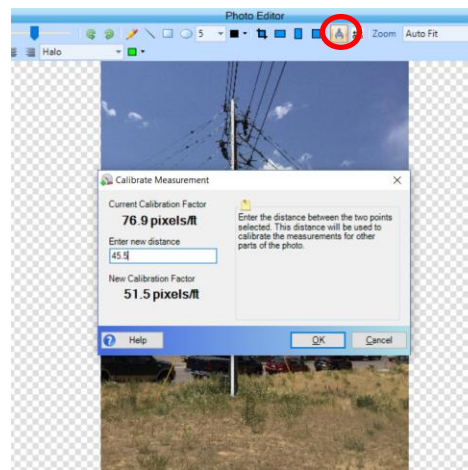

Figure 20
20. On the Photo Editor tab, use the **Calibrate Measurement** icon to scale the image with the height measured in the field (Figure 20), tap OK